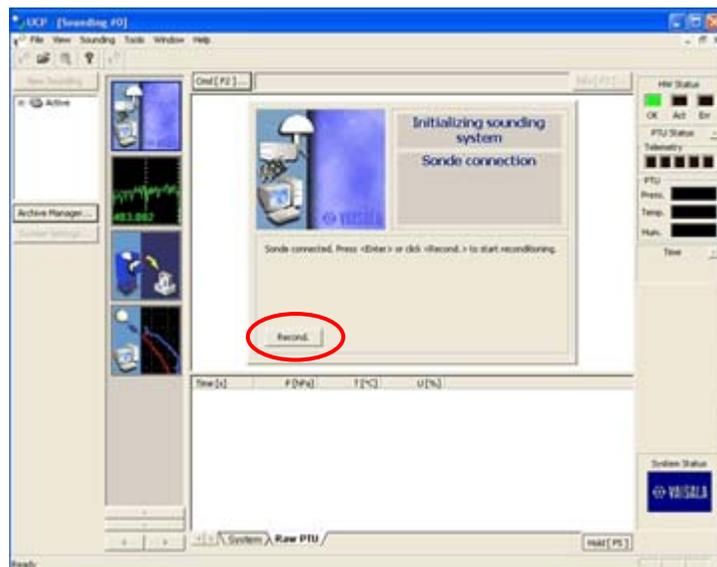

Figure 7
30. Once sonde is connected, press “Recond.” to start reconditioning (see Figure 7). Wait 3 minutes until reconditioning finishes.